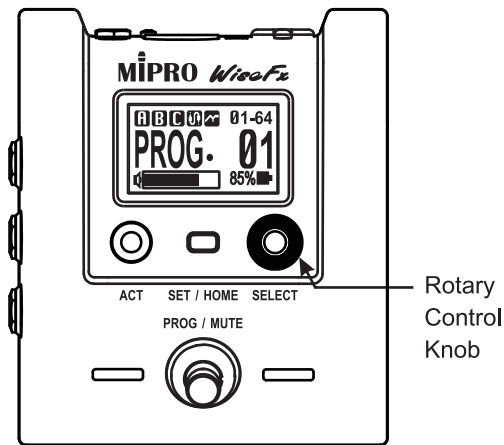

Fig. 11
(A) A navigation control for programming selection, Fig. 11:
- (1) At the primary screen, turn right or left to select pre-stored programs.
- (2) At the primary screen, press SET / HOME **4** to enter the function setting screen.
- (3) At the primary screen, turn the knob to choose a selection, press again to activate the current selection. Rotate to choose a new selection, and press the knob to store. Press the SET/HOME button again to return to the primary screen.